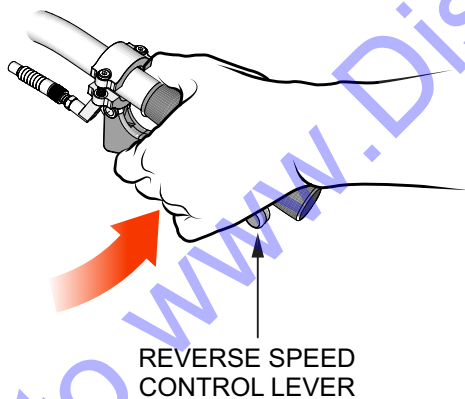

Figure 19. Reverse Speed Control Lever (Gas)
7. On the opposite side of the handle bar is the **reverse** speed control lever (Figure 19). Repeat the above steps for traveling in the reverse direction.